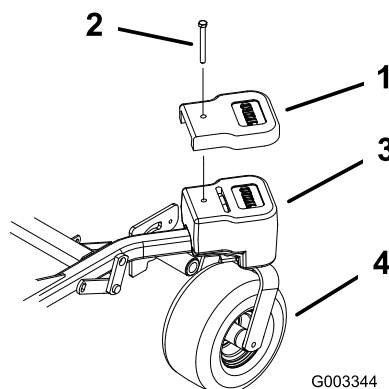

Figure 29
4. Install the top weights on top of each caster weight for 60 inch mowers with 2 bolts (1/2 x 2-1/2 inches) (Figure 29).